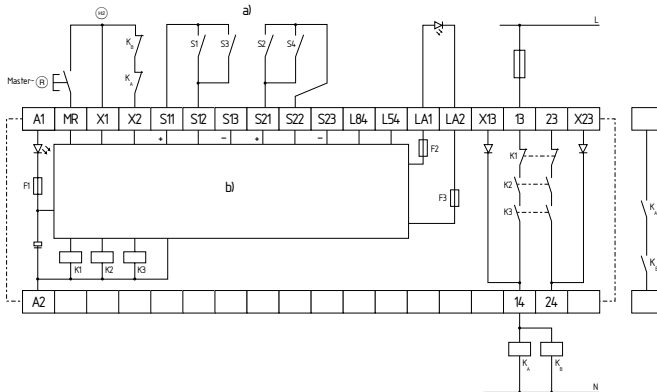

Fig. 6: SRB 202MSK
Dual-channel control, shown for 2 muting sensors and an external master reset button (R) (Fig. 6 and 7)
- (R) = Feedback circuit